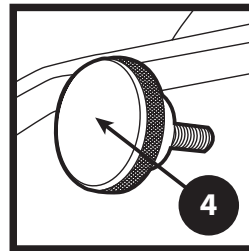

FIGURE 8
- ① WORK SUPPORT
- ② WORK SUPPORT ARM
- ③ ATTACHMENT LOCKING LEVER
- ④ TRACKING ADJUSTMENT KNOB
- a. If the abrasive belt does not remain centered on the contact wheel while the belt is moving use the Tracking Adjustment Knob (Figure 8) on the upper left side of the machine to track the belt. Turn this control clockwise to cause the belt to track to the left; conversely, turn the control counterclockwise to cause the belt to move to the right.